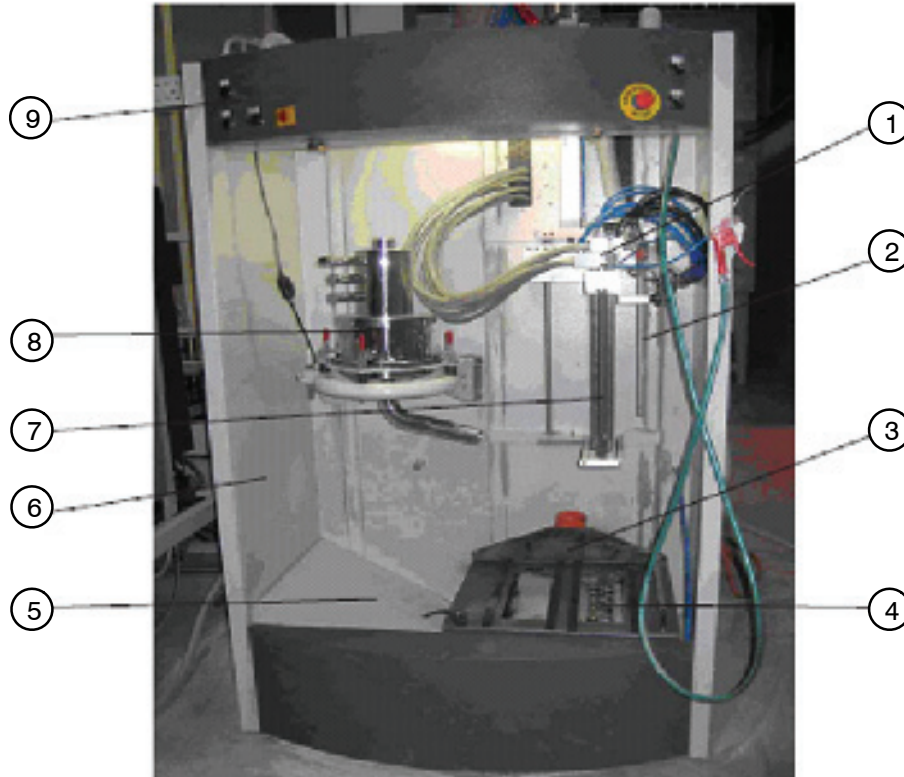

Figure 2-1 Powder Feed Centre Lite
See Fig 2-1. The Powder Feed Centre Lite consists of a canopy enclosure (6) that houses a vibratory table (3) to support the powder box. The powder box is loaded on to the vibratory table to allow the pick up tubes (7) to move downwards in to the powder. When the powder pumps (1) are operated powder is transported up the pickup tubes and in to the powder hose, to the spray guns.